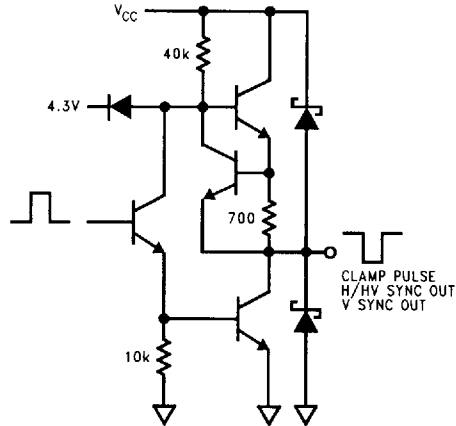

FIGURE 4
See Figures 4 through 15 for input and output schematics.
**Pin 2 - CLAMP PULSE:** Active-low clamp pulse output. See Figure 4 for the output schematic.
**Pin 11 - H/HV SYNC OUT:** The sync processor outputs active-low H/HV sync derived from the active sync input (pin 9 or pin 12). Pin 11 stays low in the absence of sync input. See *Figure 4* for the output schematic.
**Pin 17 - V SYNC OUT:** The sync processor outputs active-low V sync derived from the active sync input (pin 8, pin 9 or pin 12). Pin 17 stays low in the absence of sync input. See *Figure 4* for the output schematic.